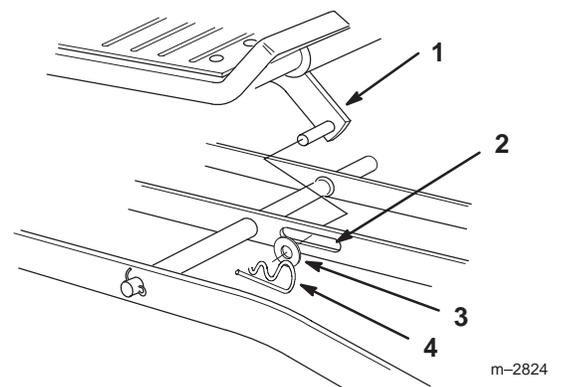

Figure 5
4. Slide the mower under the chassis from the right side and align attachment lift with slot in center lever bar (Fig. 5).
6. Place attachment lift pin into slot in center lever bar and secure with a washer (3/4 in.) and a hairpin cotter (Fig. 5).